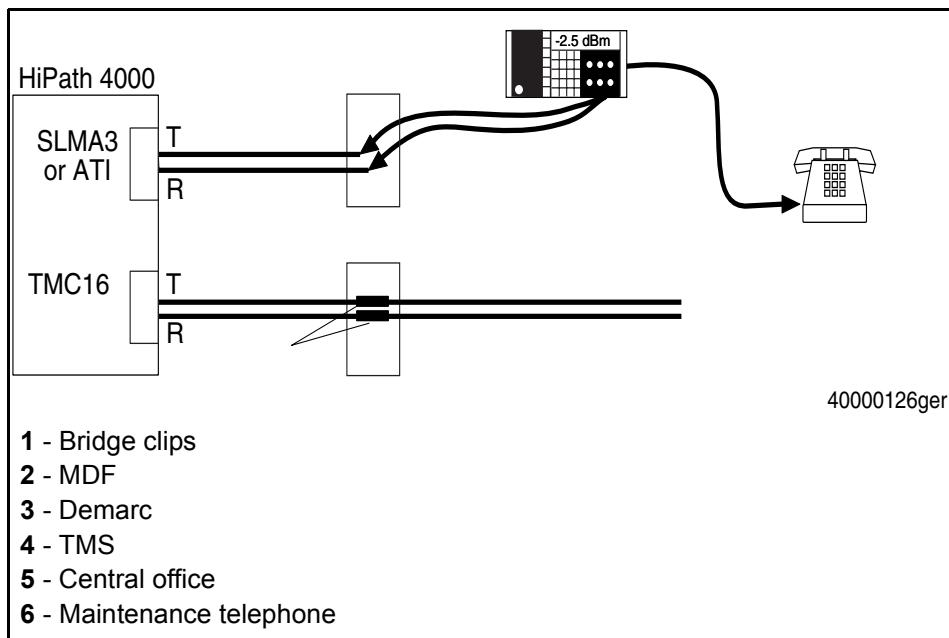

Figure 1 Test setup for measuring ERL and SRL on CO trunk channels
4. Connect the transmission test set to the maintenance telephone port (Figure 1).